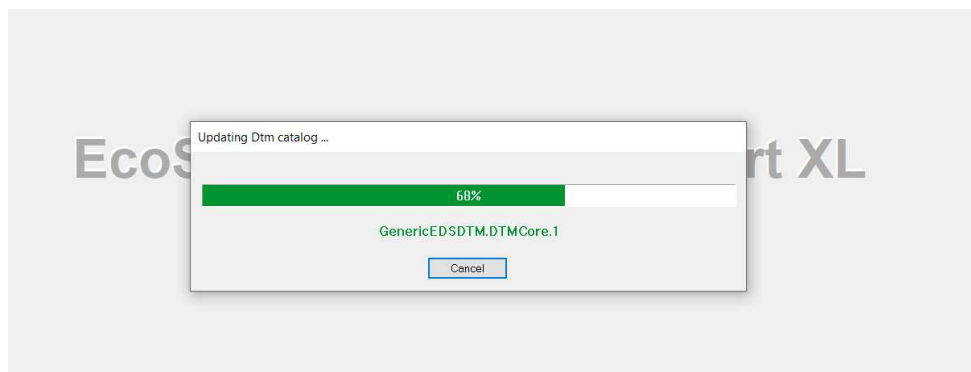

Figure 14 – Control Expert updating the DTM catalog.
- If you see a message window indicating 'Updating DTM Catalog', this confirms that Control Expert is running (See Figure 14.).